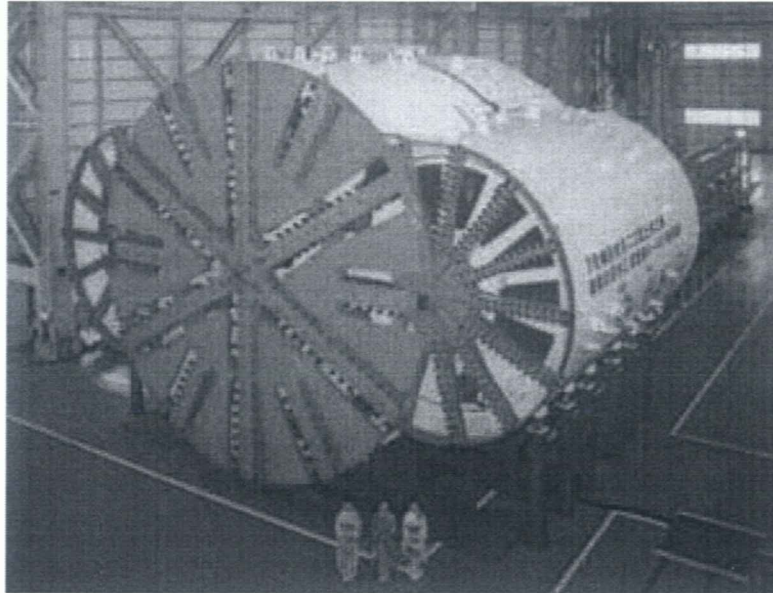

Figure 3. TRIPPLE-HEAD SHIELD (15.80x10 m.), MEGURO STATION, TOKYO METRO
- 1996. Mitsubishi and Kawasaki build multi-head circular slurry and earth pressure balance shields. (**Figure 3**).